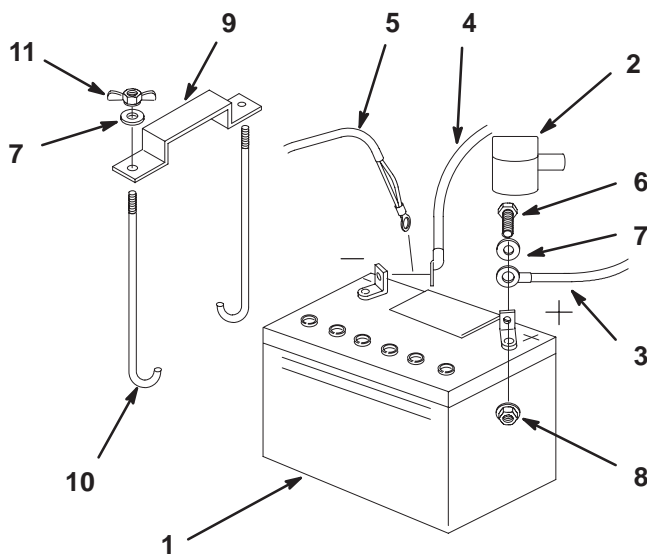

Figure 65
1. Position battery in tray with terminal posts toward the engine (Fig. 65).
4. Secure cables with 2 bolts (1/4 x 3/4 inch), 2 washers (1/4 inch), and 2 locknuts (1/4 inch) (Fig. 65).
6. Secure battery with J-bolts, hold down clamp and 2 washers (1/4 inch), and 2 wing nuts (1/4 inch) (Fig. 65).
4. First disconnect the negative battery cable and ground wire from the negative (-) battery terminal (Fig. 65).
5. Slide the red terminal boot off the positive (red) battery terminal. Then remove positive (red) battery cable (Fig. 65).
6. Remove both wing nuts (1/4 inch) securing the battery clamp (Fig. 65).